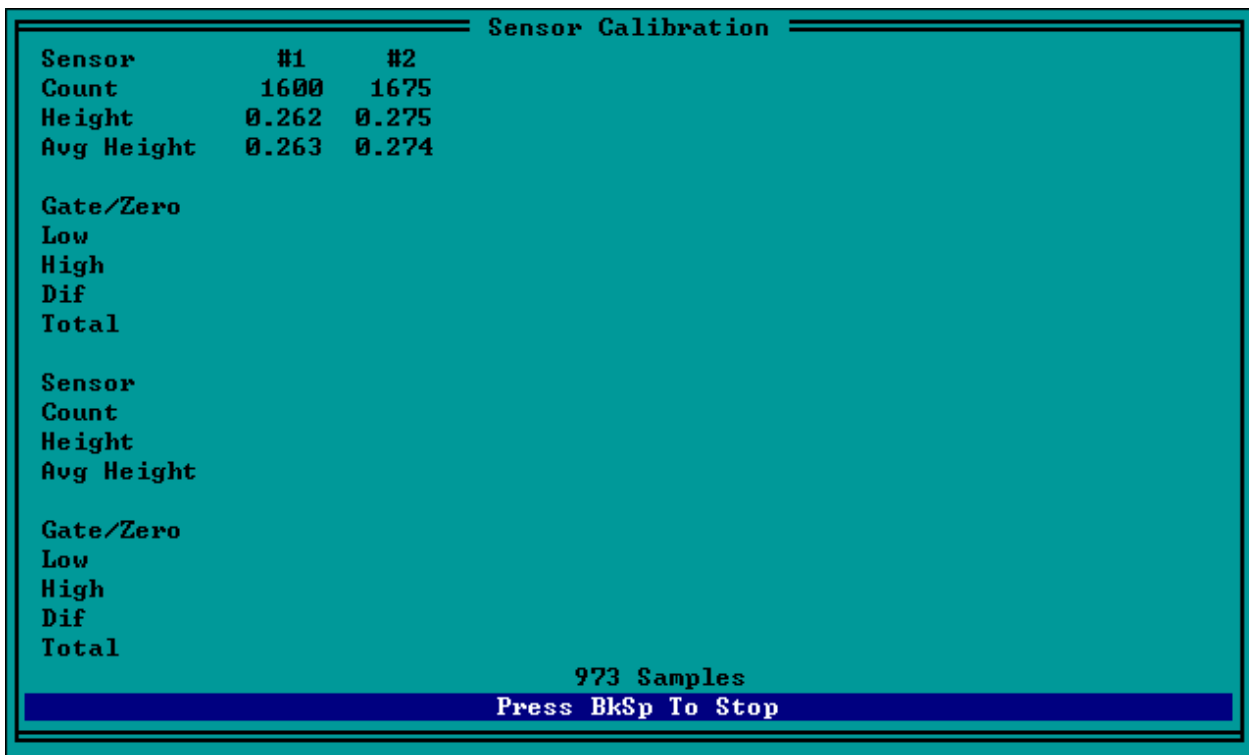

Figure 3-1. MDR Software Sensor Calibration Screen.
- In the Calibration Sensor Menu, highlight 'Go' and press the Enter key. The monitor will display the sensor calibration screen similar to Figure 3-1.